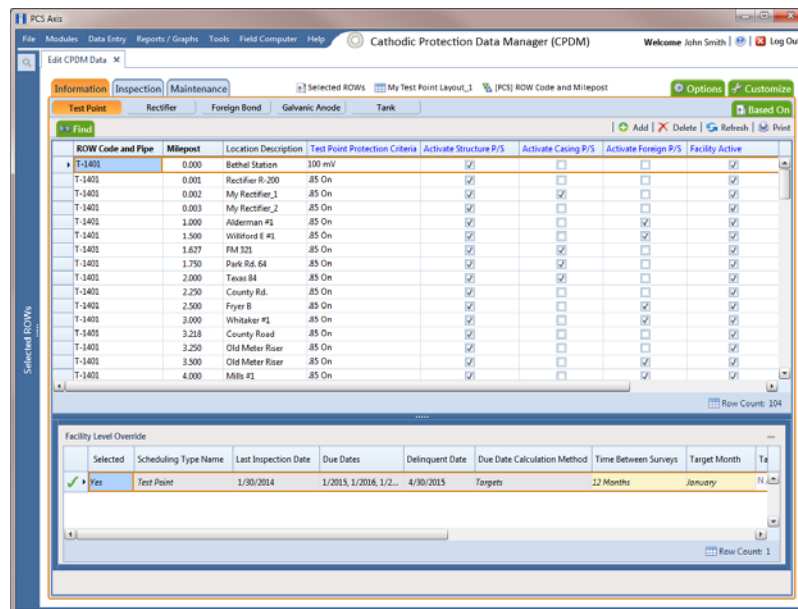

Figure 7-5. Information Grid
- 3 Open the *Edit <module> Data* window. For example, click **Data Entry > Edit CPDM Data** to open the *Edit CPDM Data* window (Figure 7-5, page 217).